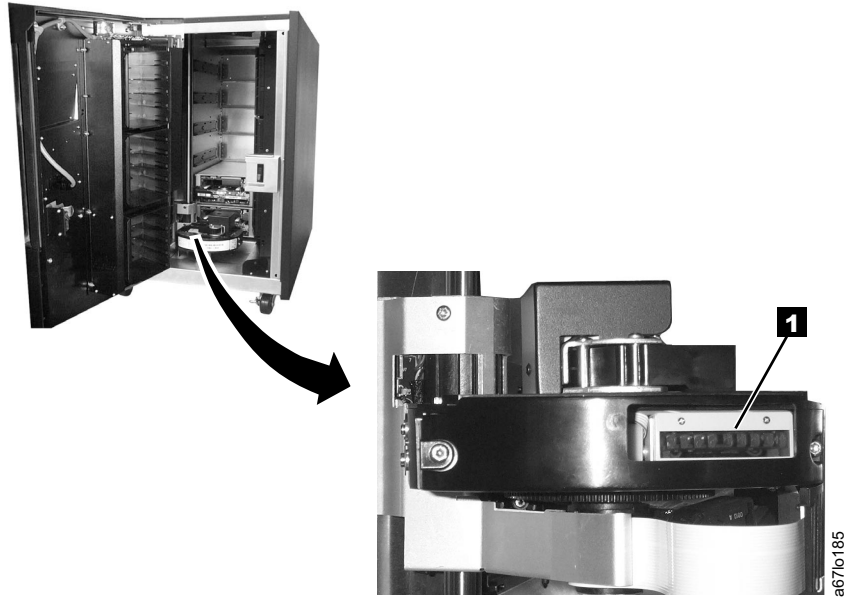

Figure 381. Cleaning the bar code reader
2. Wipe the bar code reader window (**1** in Figure 381 on page 256) with a lint-free cloth.